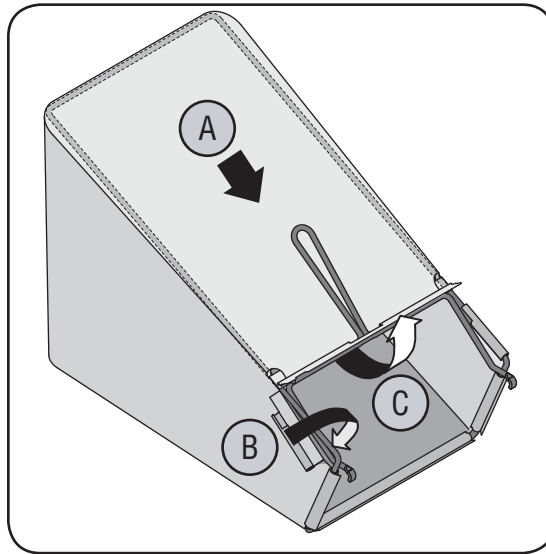

Figure 3-5
- a. Place bag over frame (black plastic side is the bottom of bag.) Insert the hooks on the frame through the holes in the side plastic channels of the bag. See Figure 3-5.
- b. Secure bag to frame by working the plastic channels on bag over frame as shown in Figure 3-5.